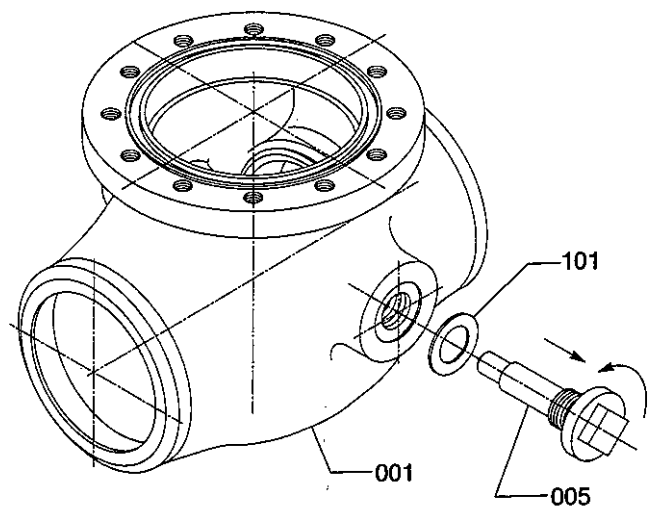
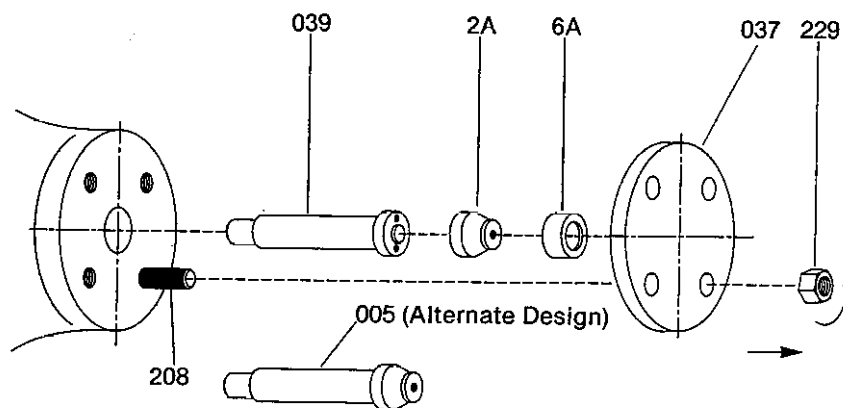

Fig. 6
Fig. 7
The hinge pin body penetrations are sealed by bolted blind flanges containing spiral-wound gaskets. On some older designs (Fig. 7) a metal pressure seal closure is used, or on smaller valves, a pipe plug type cover with a retained spiral wound gasket (Fig. 6).
5.1.2.1 — PIPE PLUG SEAL COVER (Fig. 6)
5.1.2.2. — PRESSURE SEAL COVER (Fig. 7)
(Fig. 6), the gasket (101) must be installed on the pin before insertion. Where a spiral wound gasket is used, the plug should be tightened until the proper gasket compression is achieved as follows: